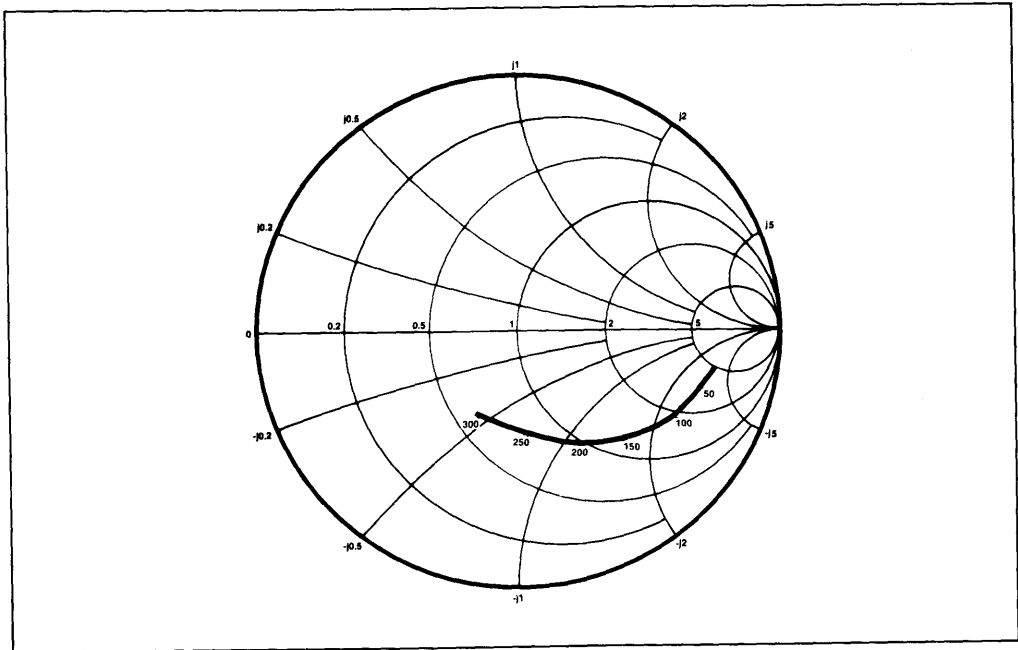

Fig.5 Typical input impedance. Test conditions: supply voltage -5.2V, ambient temperature 25° C, frequencies in MHz, impedances normalised to 50 ohms.
6. The input impedance of the SP8720 varies as a function of frequency. See Fig. 5.